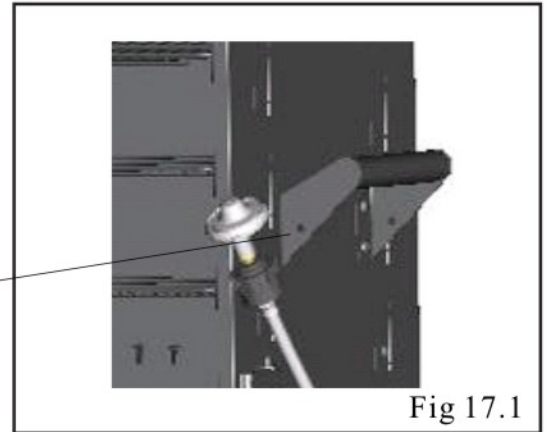

Fig 17.1
1. When the regulator not in use, use the S hook to put it on the right side handle. Fig 17.1